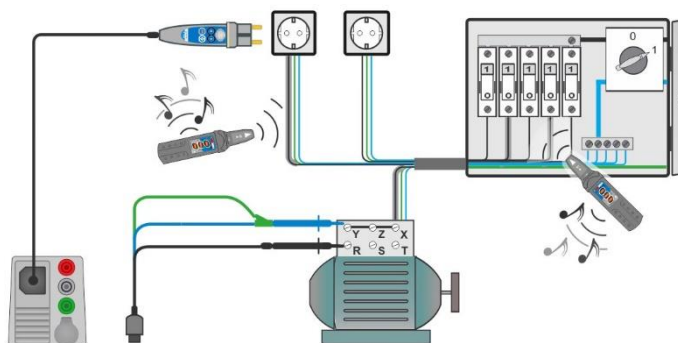

Figure 7.141: Tracing wires under walls and in cabinets
- › Connect 3-wire test lead or Plug commander to the tested object (see **Figure 7.141** and **Figure 7.142**).